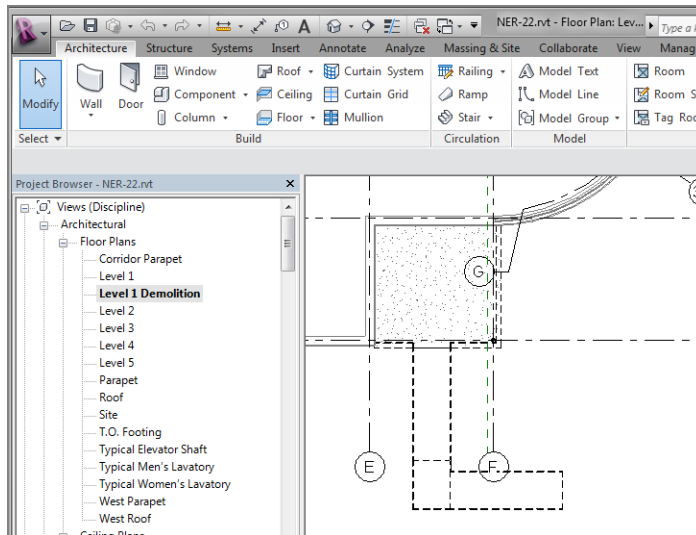

FIGURE 21.5: Seeing the results of demolishing an item
16. Zoom in on the east entry, specifically where the ramp enters the building to the south, as shown in Figure 21.5. Revit automatically changes the line weight to Heavy, and the line type to Demolished.